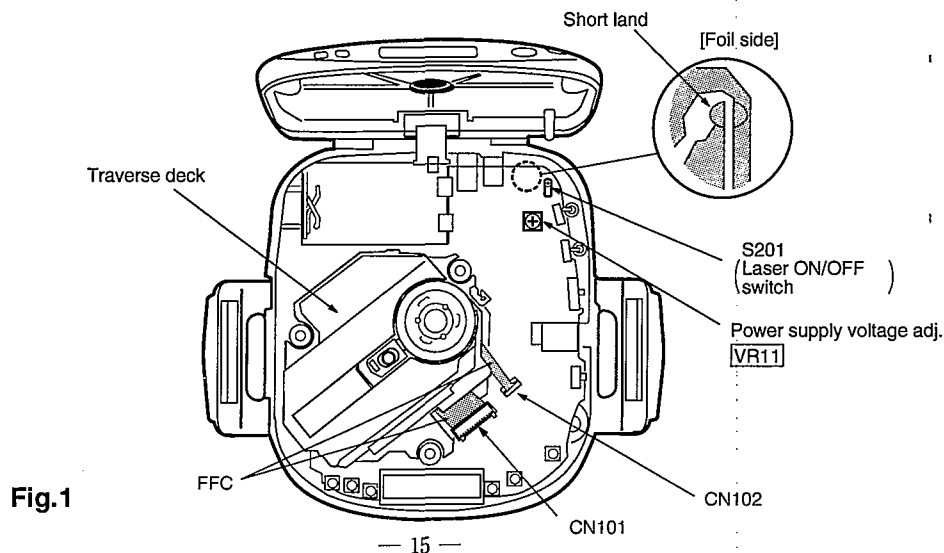

Fig.1
Short-circuit the lands of the laser ON/OFF switch (S201) by soldering them. It turns “ON” position. (Refer to below **Fig. 1** or printed circuit board and wiring connection diagram for short land location on page 26.)
2. Take care to connect CN101 and CN102, as shown in **Fig.1**.
4. Adjust **VR11** on the P.C.B. at **3.10 ~ 3.14 V**, as shown in Fig. 1.
Fig. 1 is a block diagram showing the compression-shockproofing mechanism, the difference of which from the conventional mechanism is as follows: Input information read out at double speed undergoes data compression (16 bits → 4 bits) by the encoder in the ADPCM (Adaptive Difference PCM) and stored in the external memory; the stored memory information undergoes data elongation (4 bits → 16 bits) by the decoder in the ADPCM and supplied at normal speed to the D/A converter.